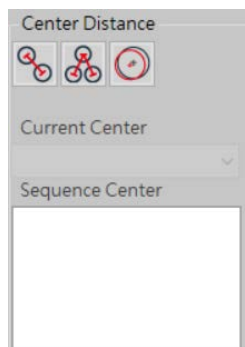

Fig 5-12 Center Distance
(8) Center Distance: This function is only enabled after using Two Point Circle or Three Point Circle. There are three measure functions for Center Distance. See Fig 5-12.